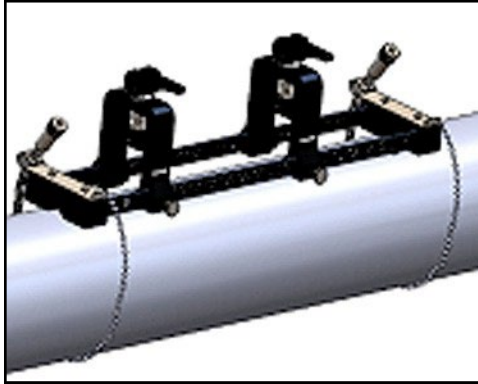

Figure 14: Fixture With Chains Installed
7. Repeat the previous steps to install the chain at the opposite end of the clamp-on fixture (see Figure 14 below). The clamp-on fixture should be firmly mounted to the pipe, but it should still be loose enough to allow final alignment.